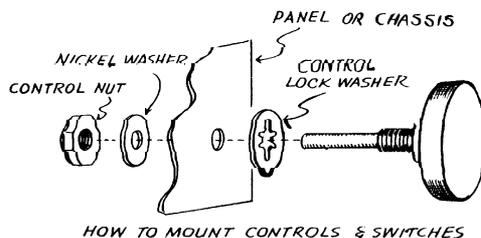

Fig. 2
- (✓) 5. Position the 5K control, H, as shown. Use a lockwasher between chassis and the control bushing as shown in Figure 2. Use no nickel washer for this control.
- ( ) 17. The panel may now be assembled to the chassis. Stand the chassis on its rear apron. Lay the panel on the front apron and align the holes. Insert the 100K ohm voltage output control, with a control lockwasher on its bushing, through the left hand hole. Add a flat nickel washer and nut, but do not tighten. (See Fig. 2)